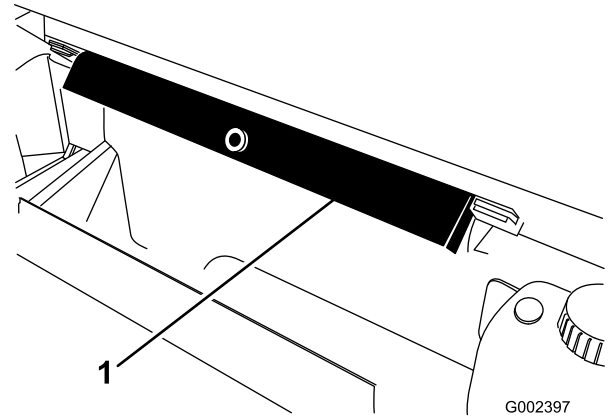

Figure 45
6. Remove the bed support from the storage brackets on back of the ROPS panel (Figure 45).